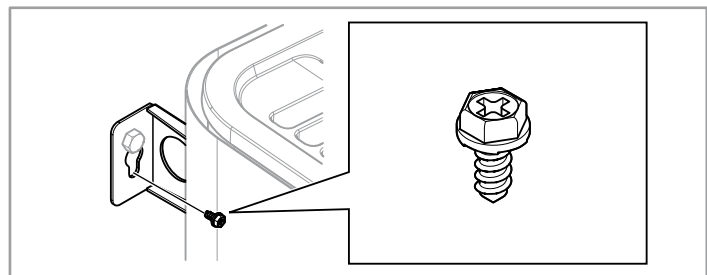

Figure 15: Lock screw for bracket
12. Lock the heater into place with the lock screw see Fig. 15.